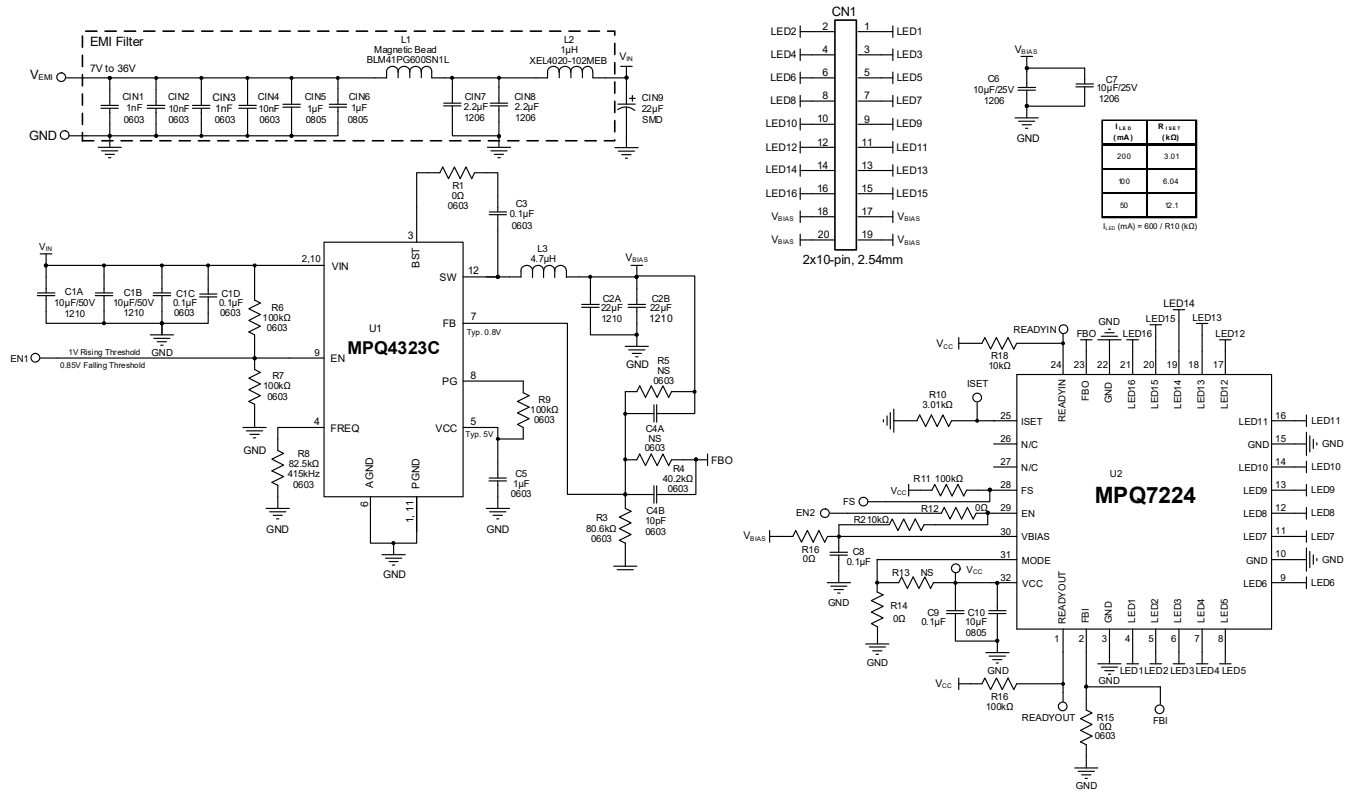

Figure 4: Evaluation Board Schematic
8. To use the enable (EN) function, apply a digital input to the EN pin. Drive EN above 2.2V to turn the regulator on; drive EN below 0.8V to turn it off.
9. The LED current (I_{LED}) is set via the external resistor (R10) (see Figure 4 on page 6), and can be calculated with Equation (1) on page 4: